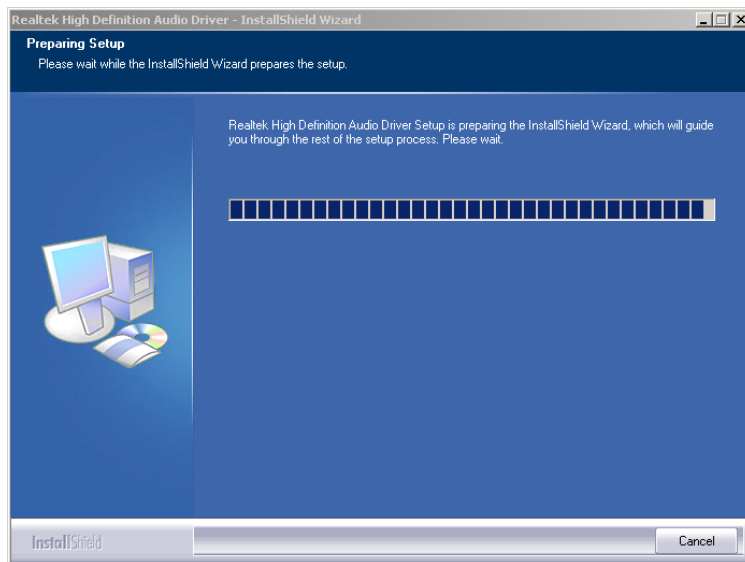

Figure 7-35: Preparing Setup Screen
Step 5: The **InstallShield Wizard** is prepared to guide the user through the rest of the process (**Figure 7-35**).